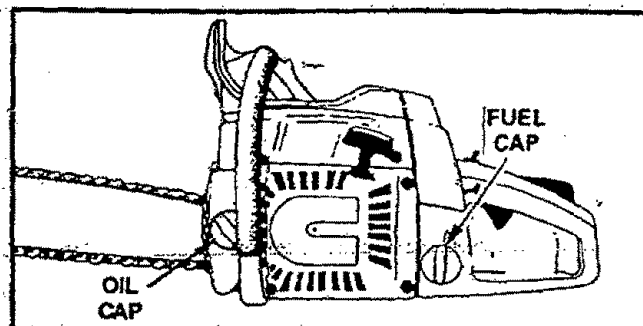

Figure 12
- Loosen cap slowly and wait for pressure in the tank to be released before removing the cap. Figure 12.